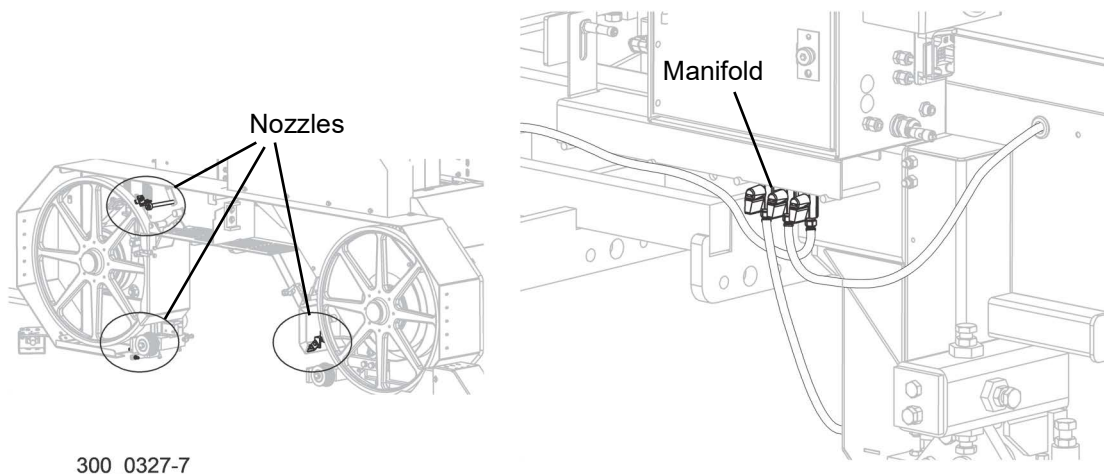

FIG. 3-24
1. Position the hydraulic power unit approximately 12" away from the operator station and approximately centered, as shown in Figure 3-24.